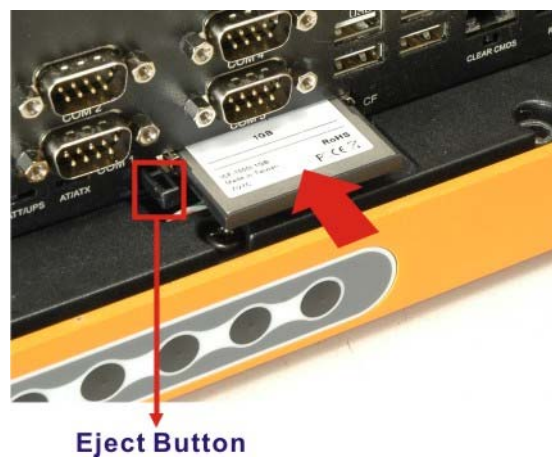

Figure 4-1: CF Card Installation
Step 2: Install the CF Card. Correctly align the CF card with the socket and insert the CF card into the socket. See **Figure 4-1**.